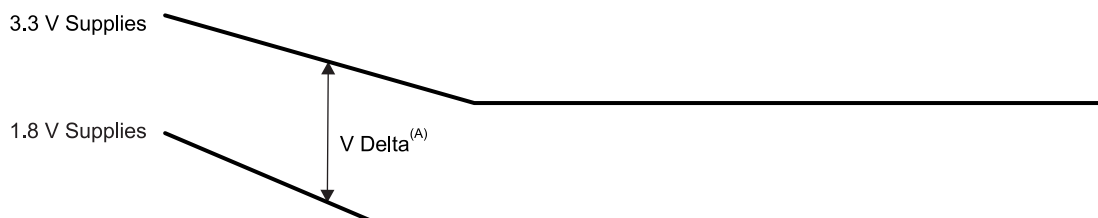

Figure 7-3. 1.8 V Supplies Falling Before 3.3 V Supplies Delta
(1) The 1.5-/1.8-V DVDD_DDR[x] and CVDD, CVDD_x variable supplies can be powered down prior to or simultaneously with the 1.8-V supplies.
(2) The 3.3 V supplies **must** never be more than 2 V above the 1.8 V supplies (see Figure 7-3).